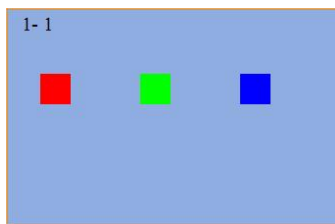

Fig.4-50 Shooting complete
- Once a color (Red, Green, or Blue) of a partition has been captured, it will be shown on the corresponding partition and the background color of that partition will change to light blue (see Figure 4-50).